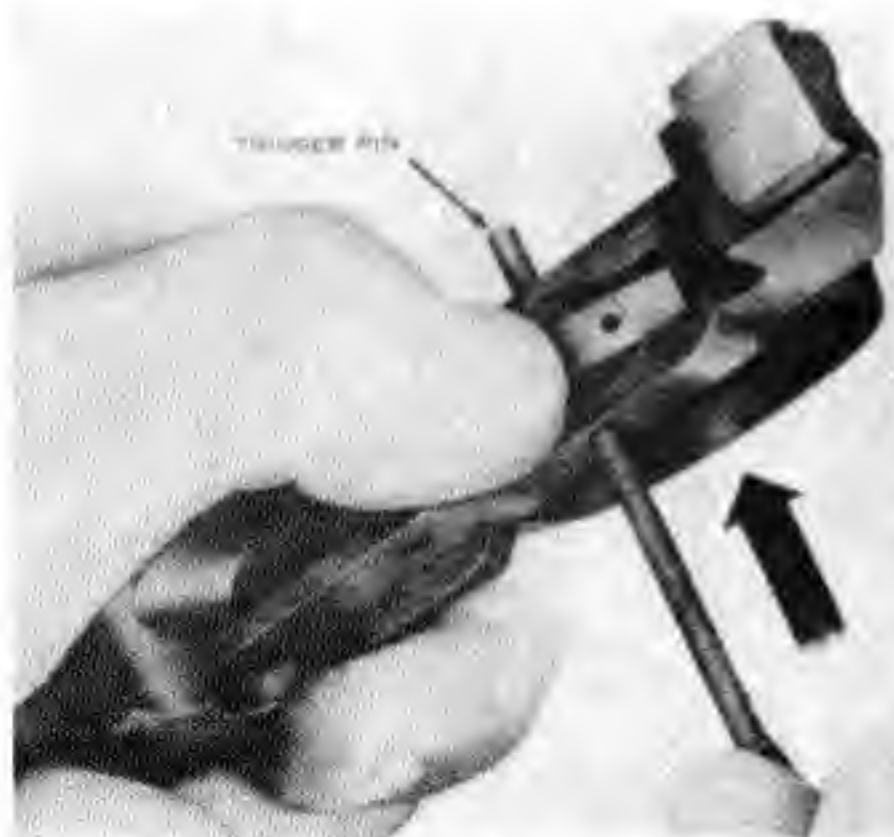

Figure 21. Removing the trigger pin.
c. Hold the trigger housing group in the left hand as shown in Figure 21, with the thumb pressing down on the sear. Using the small end of the operating slide spring guide, drift out the trigger pin from right to left. Turn the trigger housing group upside down and allow the sear and sear spring to fall out.